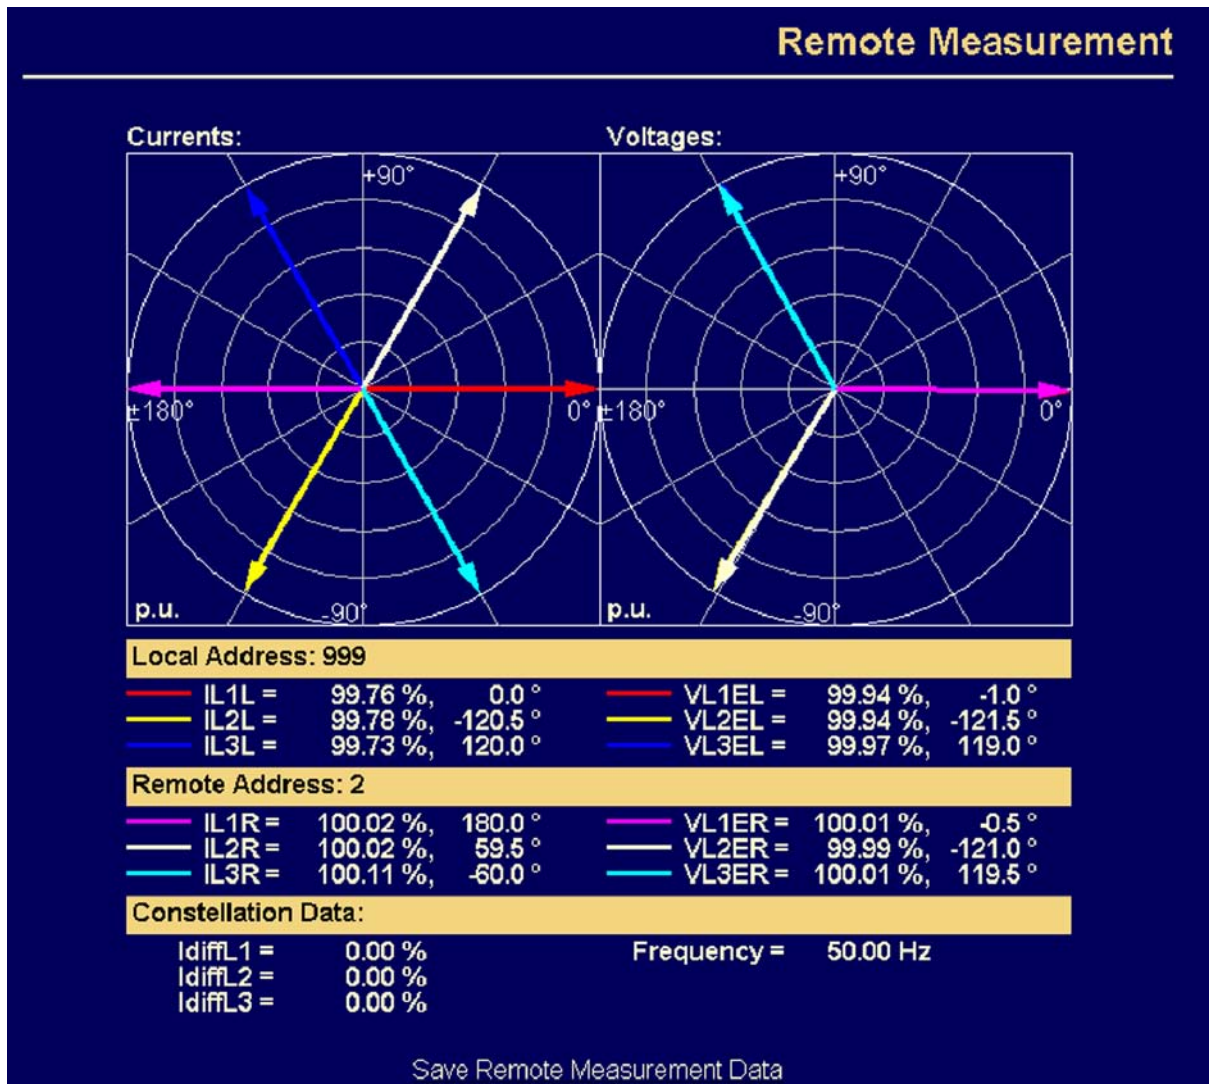

Figure 3-27 Local and remote measured values in the WEB-Monitor — examples for plausible measured values
Here, again, the „WEB-Monitor“ is a comfortable help as the vector diagrams also show the correlation between the currents and voltages (Figure 3-27). Cyclically and acyclically swapped phases can easily be detected.
- The above described tests of the measured values also have to be performed at the other end of the tested current path. The current and voltage values as well as the phase angles of the other end can also be read out locally as percentage values. Note that currents flowing through the object (without charging currents) ideally have opposite signs at both ends, i.e. turned by 180° . In the „WEB-Monitor“ the local and remote measured values can be shown graphically. One example is illustrated in Figure 3-27.